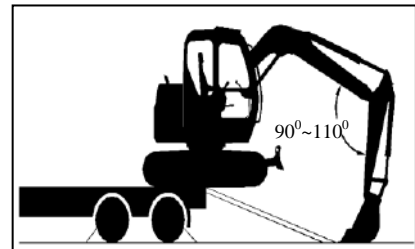

Figure 4.1.8
A. When the machine travel from trailer bed to slope as illustrated, place the bucket to the ground as figure, the angle between arm and boom should be 90°--110° (As figure 4.1.8).